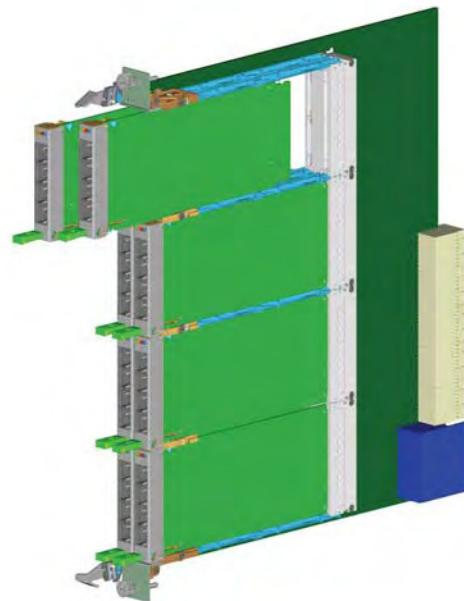

Figure 5
- Cutaway Carriers: The term *Cutaway Carrier* is derived from the carrier board below the AdvancedMC modules being cutaway to support stacked modules, as shown in Figure 5. Cutting the carrier board permits the maximum component height possible for Half-Height Modules and provides the needed space required for I/O interfaces on the faceplate. Full-Height Modules can be inserted into the upper bay of a Cutaway Carrier when the lower bay is unoccupied. Cutaway
Figure 5 shows how Cutaway Carriers are designed to enable stacked Half-Height Modules. The stacked modules are oriented such that component Side 1 of each AdvancedMC module faces in the same direction towards where the carrier board would be. Additional components may be placed on component Side 2 (A2 or B2) of each AdvancedMC module. Cutaway Carriers may also support a single layer Full-Height or Extended Full-Height module in the B layer only.